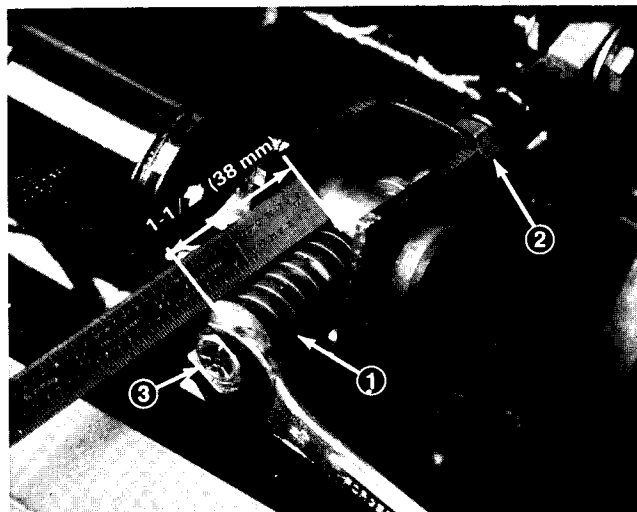

Figure 9
2. Loosen the tensioning rod jam nut (Fig. 9).